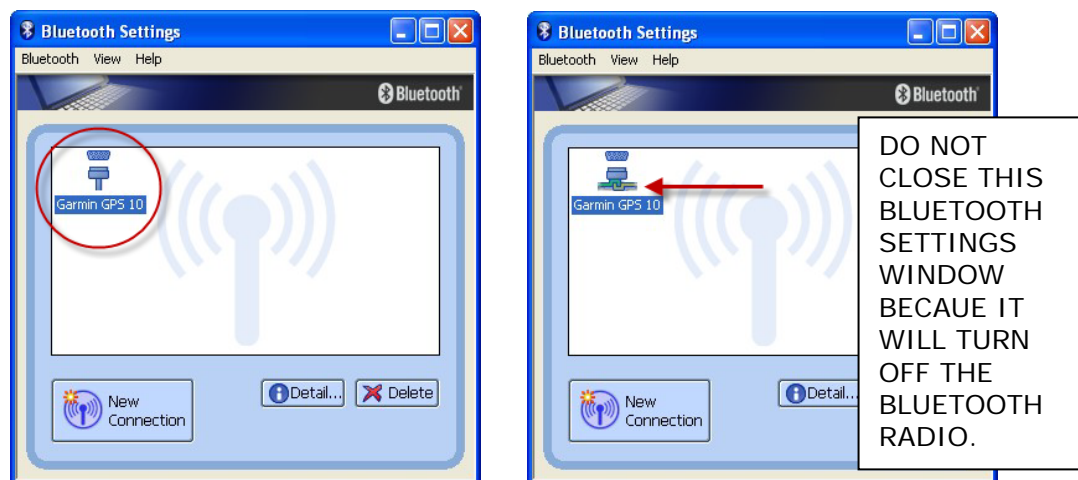

Figure 5: Double-click to activate the Bluetooth link
4. Double-click on the GPS unit icon to cause the notebook to link with the GPS unit. The GPS unit icon will show a handshake symbol in the GPS icon when the Bluetooth link is successful as shown in Figure 5.